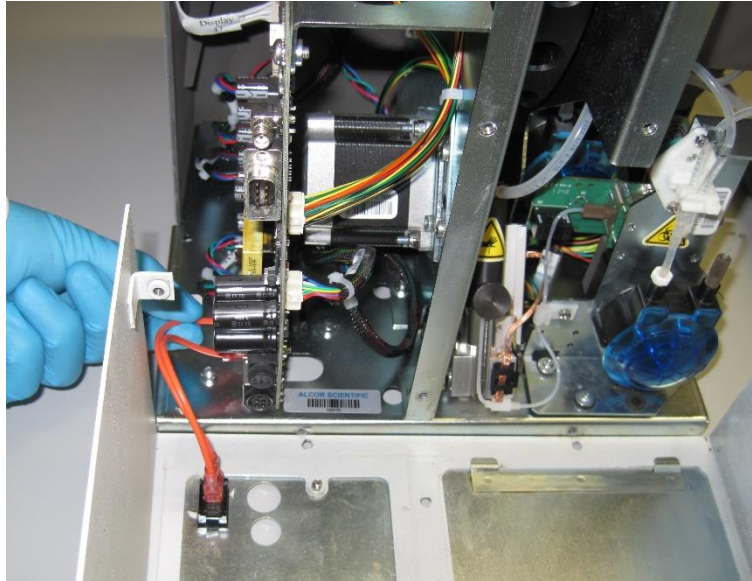

Figure 16
14. Attach the two wires leading from the power switch to the main electronics board. Figure 16